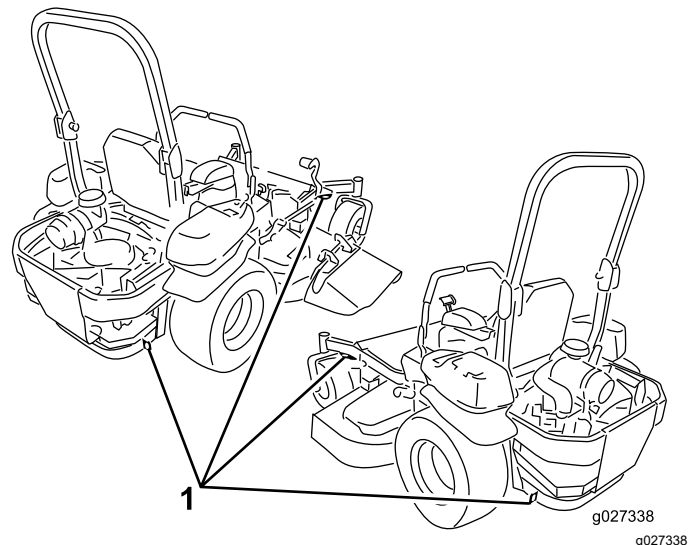

Figure 41
6. Tie down the machine near the front caster wheels and the rear bumper with straps, chains, cable, or ropes (Figure 41). Refer to local regulations for tie-down requirements.